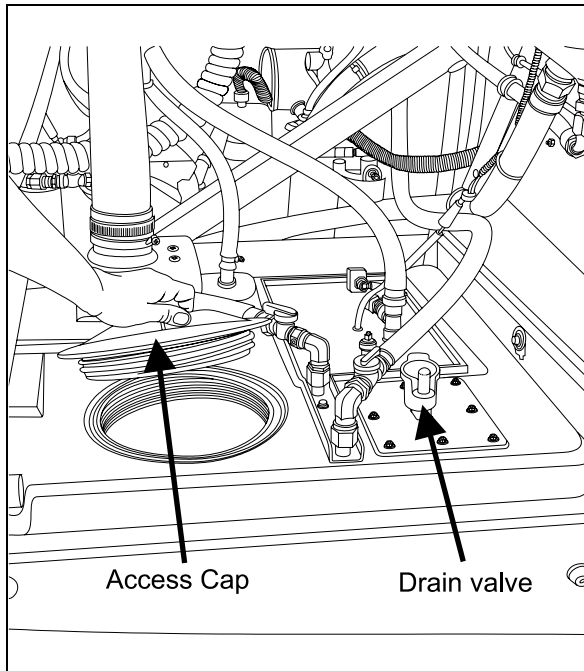

FIGURE 32: SUMP TANK
To avoid waste of washer fluid, assure the fluid jets are properly aimed. Adjust nozzles so they aim as described in figure 32. Align the jet adjustment tool #800377 with the reference line shown on the front view detail. As seen on the side view, position the adjustment tool vertically for proper aiming.
7. Install the left wiper arm in its normal position (in the middle of the windshield (Fig. 32)). Refer to paragraph "10.2.1 Sweep Adjustment".